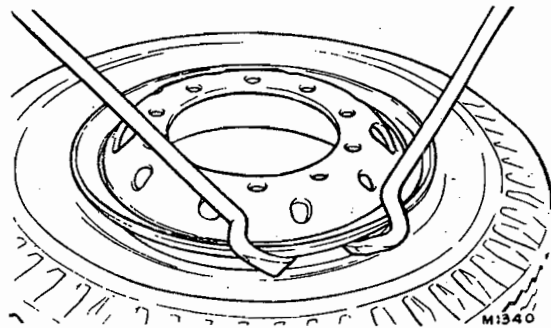

FIG. 2. USING COMBINATION LEVER TO FREE TYRE BEAD
2. Drive the "gooseneck" ends of the combination levers Dunlop TL/22 or Goodyear 3BT3 between the tyre bead and side flange at about 152 mm (6 in) apart as shown, see Fig. 2. Prise down and out in an arc of about 70°. Repeat this operation in progressive steps until the bead is completely free from the flange.